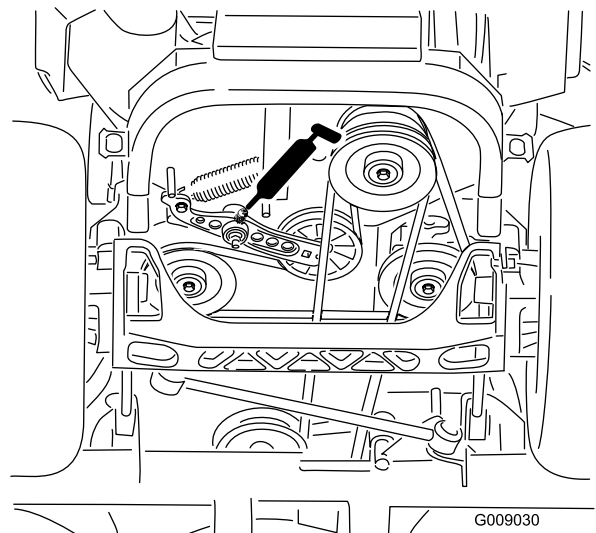

Figure 44
4. Grease the drive-belt-idler arm (Figure 44).